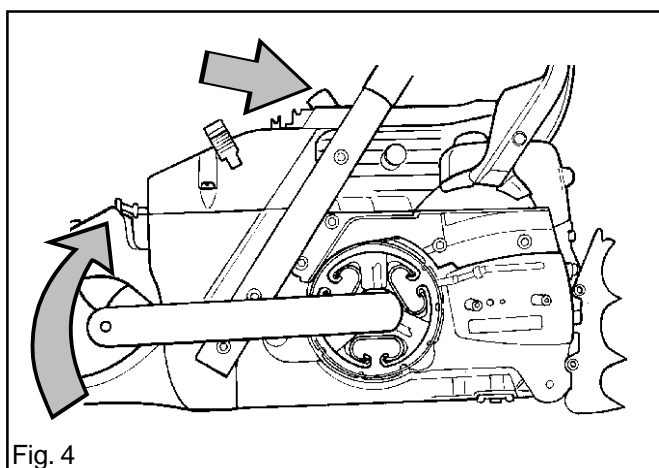

Fig. 4
6. Remove the spark plug and fit the piston stop. Remove the clutch with the clutch tool. Note – left-hand thread. Screw in the direction of the arrow as in fig. 4.